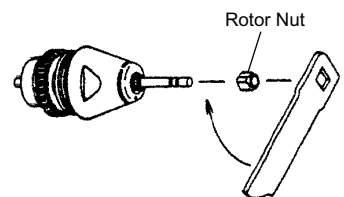

Fig. 10
- Put the rotor nut on the dummy bur and screw in the rotor nut tightly with the wrench provided. (Fig.10)